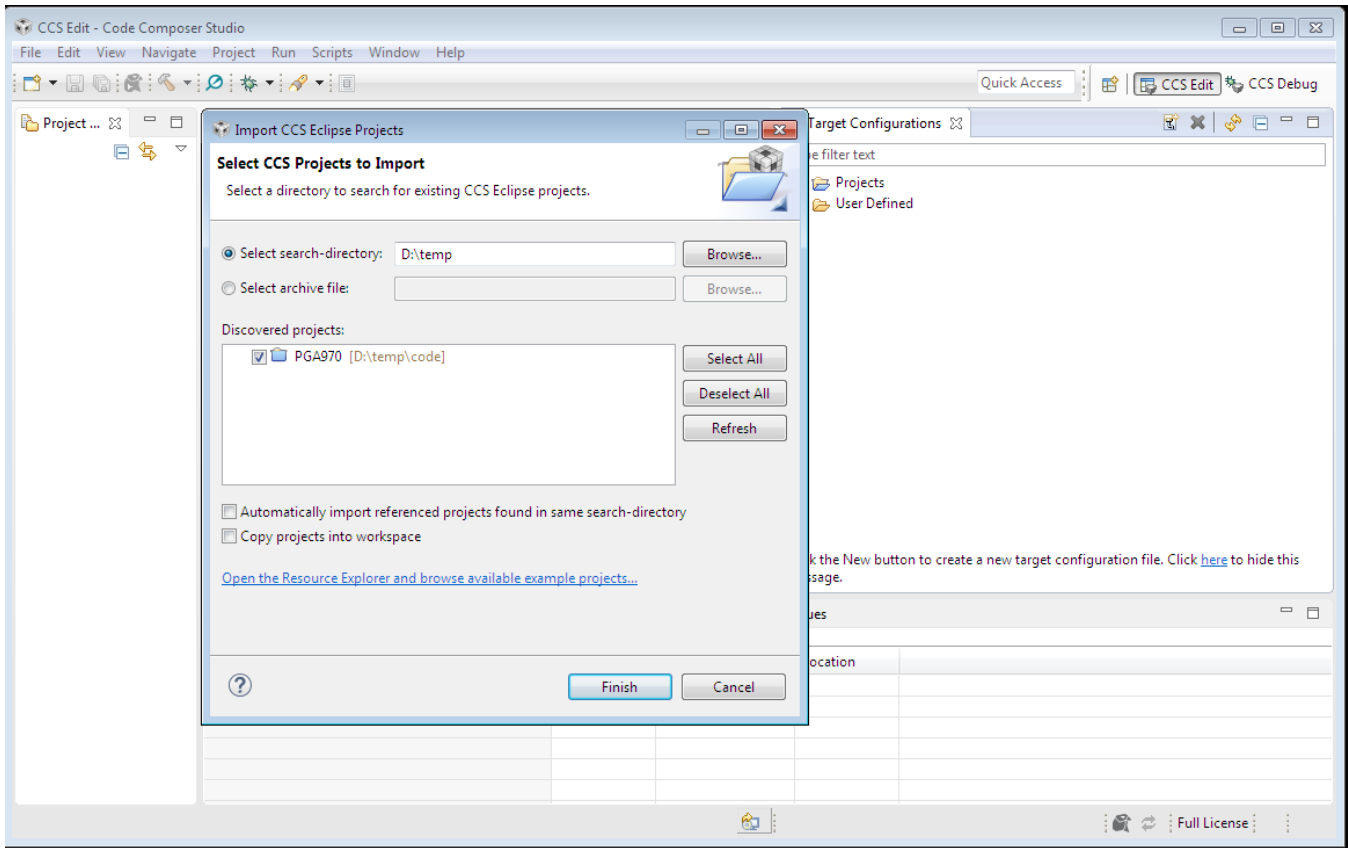

Figure 3. Select Search-Directory
10. Import CCS Projects window will get pop-up as shown in Figure 3.
- 12. Discovered projects: option shows PGA970 as shown in Figure 3 or code.